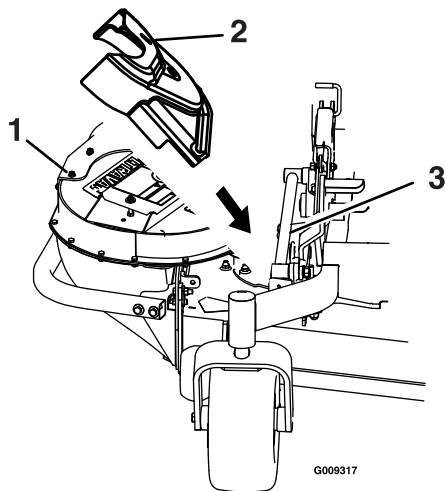

Figure 15
17. Position the belt cover at an angle and slide it under the mower frame (see Figure 15).